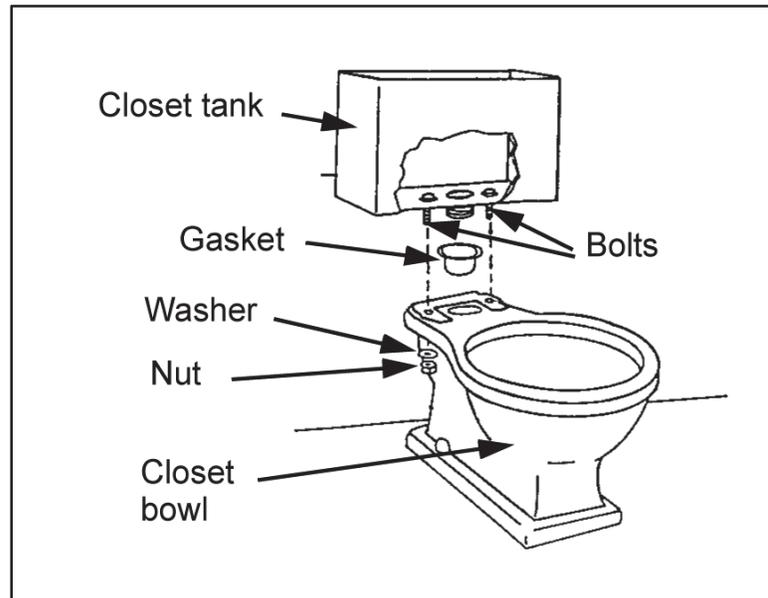

Figure 4-4. Floor-mounted tank
- 4-12. To mount a floor-mounted tank, use the following steps and figure 4-4.